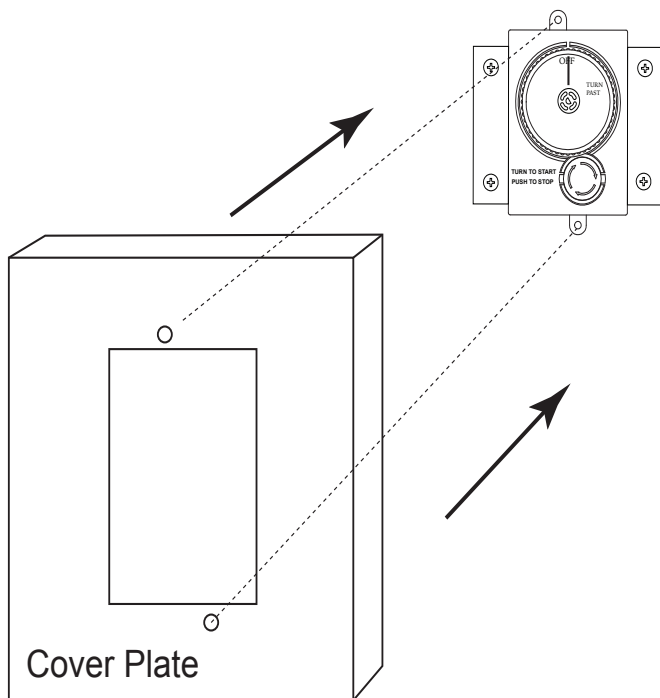

Fig. 5 Installing cover plate.
Step 6: Install the cover plate overtop of the ESTOP gas timer. Align the holes in the cover plate with the holes in the ESTOP gas timer (top and bottom) and install the two (2) mounting screws (#10-24 x 1/2" stainless steel screws) to secure the cover plate as shown in Figs.5 and 6.